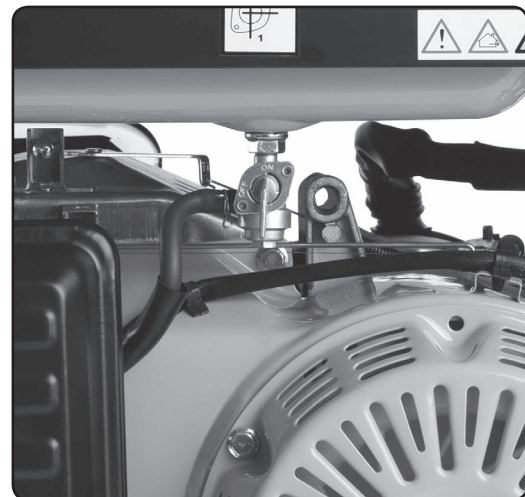

Fig. 15
8. Turn the fuel valve to the "ON" position (see also the pictogram on the frame of the generator), see fig. 15.